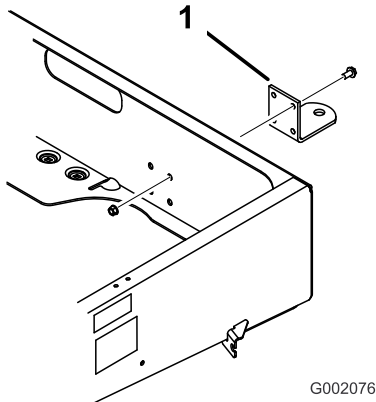

Figure 7
2. Align the hitch with the mounting holes on the frame. Secure the hitch with the screws and nuts (Figure 7).